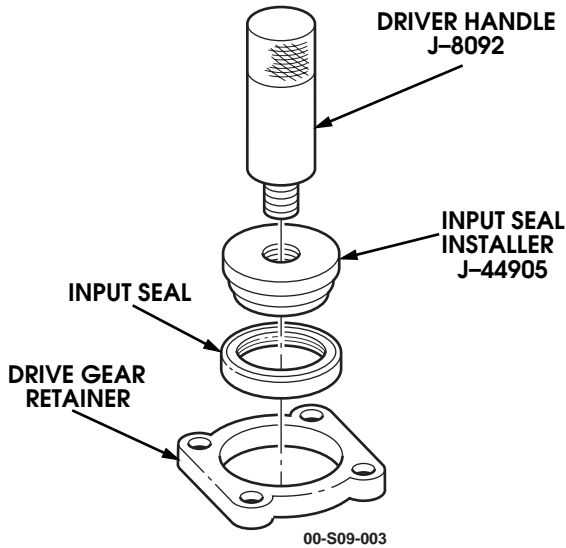

Figure 9-21: Input Seal Installation
6. Secure drive gear retainer in vise with inserts and remove input seal. Discard input seal (Figure 9-21).
1. Using driver handle J-8092 and input seal installer J-44905, install input seal in drive gear retainer. Place the new primary seal on the installer with the seamed side of the stainless steel perimeter facing toward the drive gear retainer. Drive the seal in until the installer bottoms against the drive gear retainer. The seal will be recessed in the drive gear retainer approximately 0.310". This dimension is critical and must be achieved using the special tool. (Figure 9-21).
4. Coat lip of input seal with gear oil (Figure 9-21).